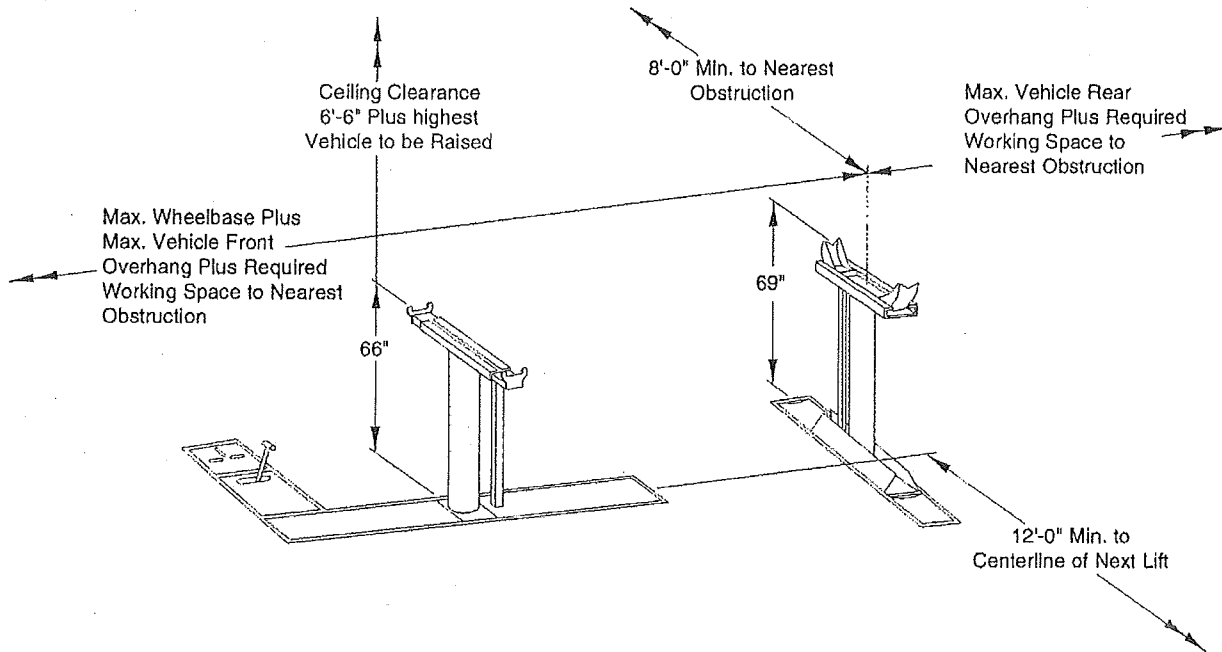

Fig. 1
- B. Locate lift centerline in desired area, Fig. 1.
- Locate lift centerlines in desired area in accordance with the information provided in Fig. 1.